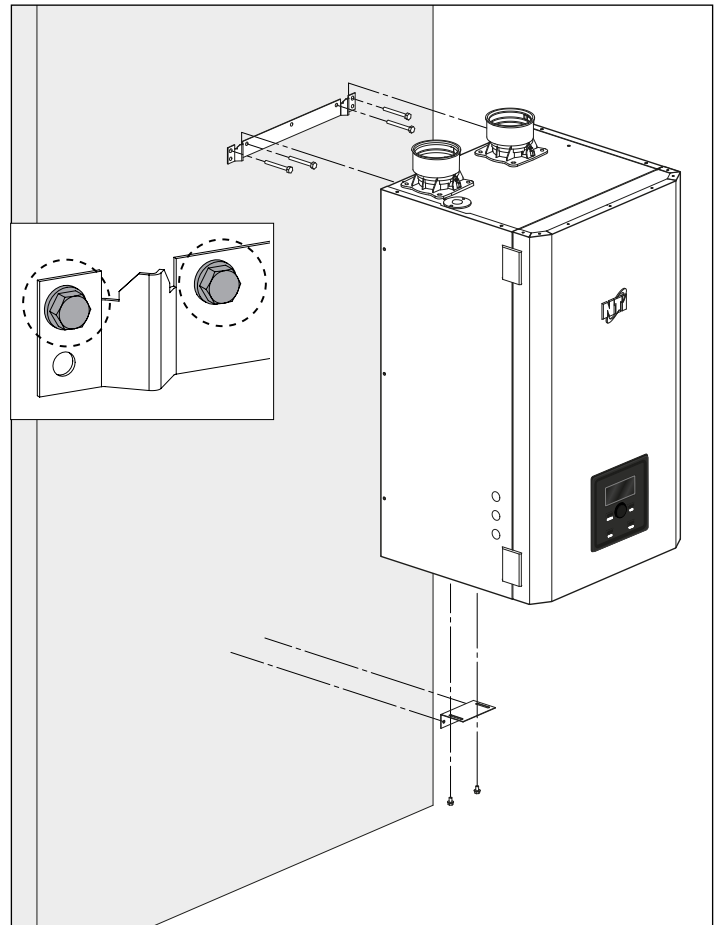

Figure 5 - Mounting to a Concrete Wall
1. Position the upper wall mounting bracket on the wall. Ensure the bracket is level and the drilling holes are on stud. Then use the bracket as a template to mark four (4) drilling holes on the wall - two (2) on each side of the bracket. See Figure 5 for details.